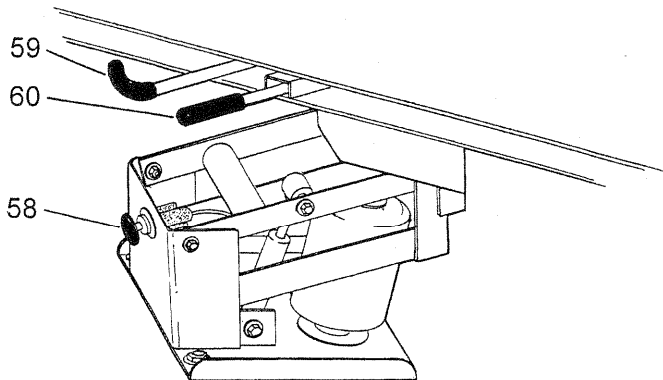

Fig. 3-13 Seat Adjustment Controls
### 58. Seat Height Adjustment Control (see Fig. 3-13)
**59. Seat Forward and Aft Adjustment Lever (see Fig. 3-13)**